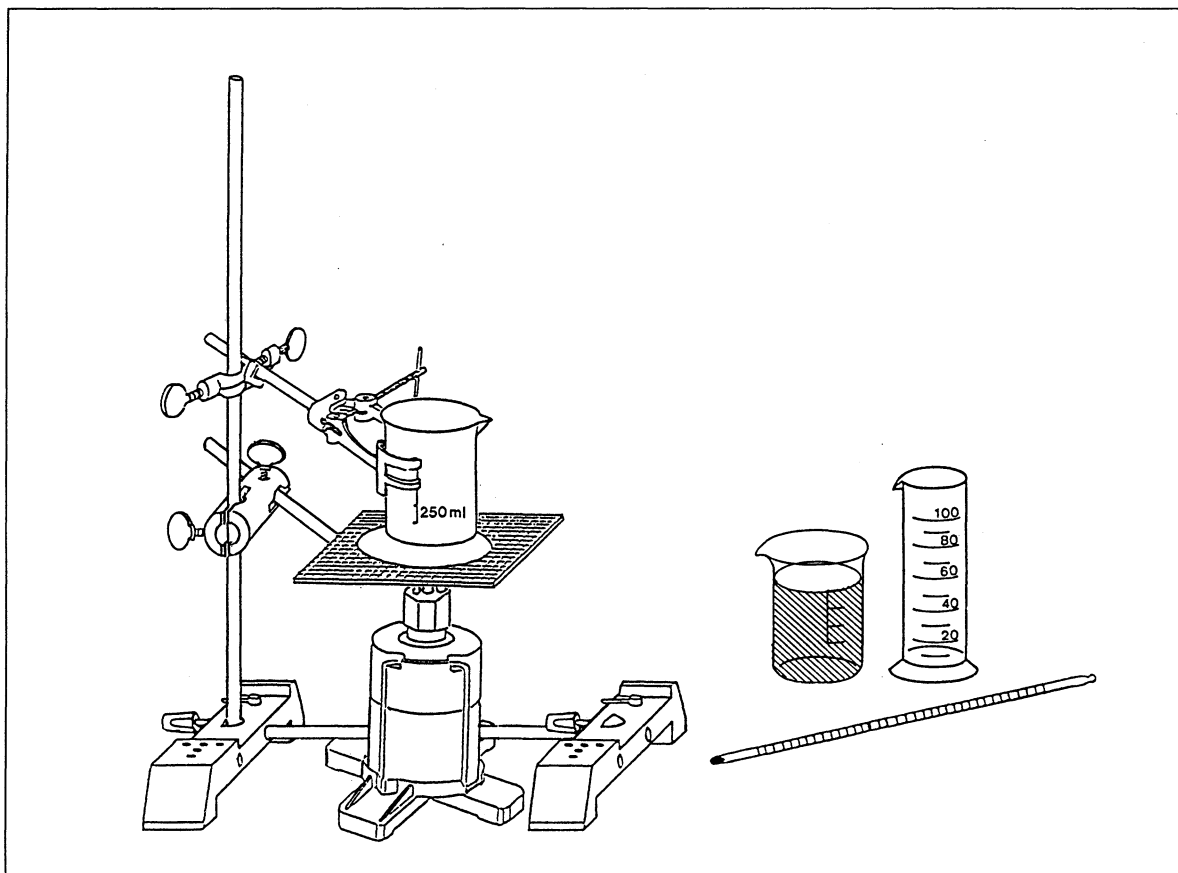

Fig. 1 Experimental setup for investigating the heat capacity of a calorimeter
1. Set up the stand as shown in fig. 1. Clamp the beaker in the universal clamp, held by the double socket.